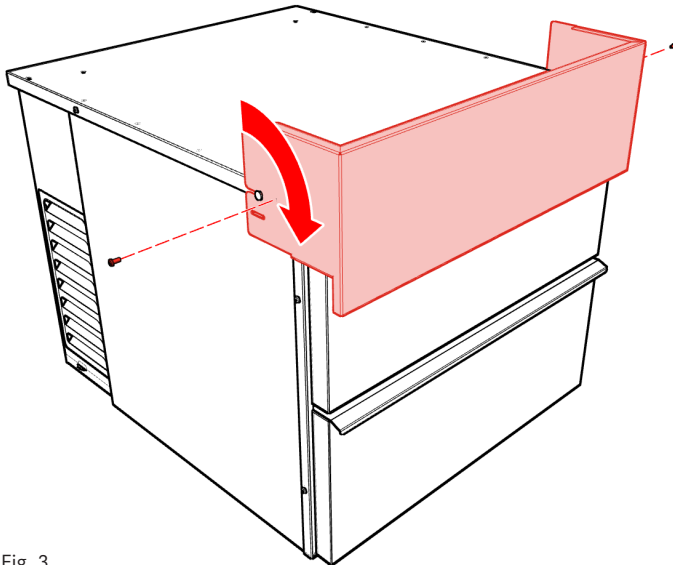

Fig. 3
Remove two (2) screws fastening front shelf assembly to Convertible Cooler Freezer. Tilt shelf forward 90 degrees (Fig. 3).